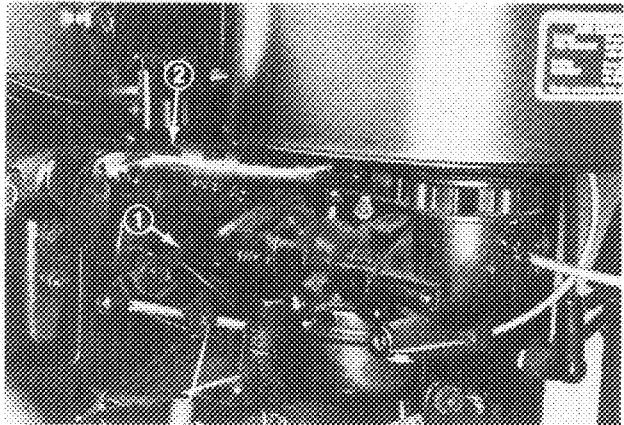

Figure 23
3. Pull firmly on throttle cable till governor arm contacts stop (Fig. 23).